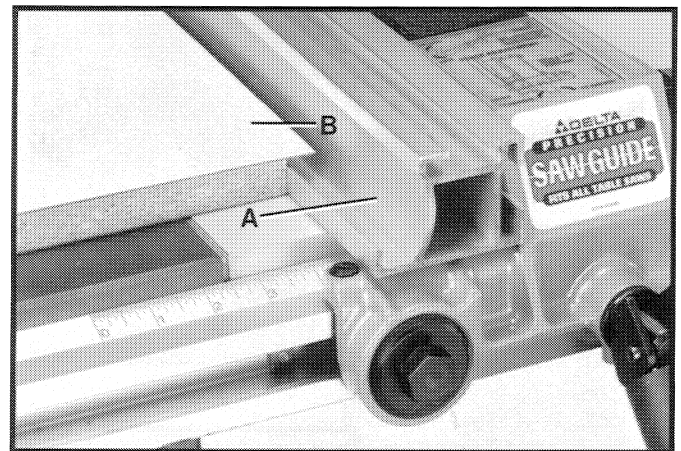

Fig. 87
When ripping material with a veneer facing that extends over the material, the fence (A) should be in the horizontal position with the veneer (B) extending over the lip of the fence, as shown in Fig. 87.